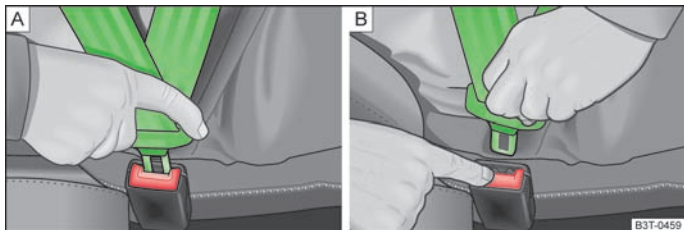

Fig. 118 Fastening/unfastening the seat belt
- Insert the lock tongue into the belt buckle » Fig. 118 - [A] that is part of the seat until it clicks into place.
- Press the red button in the belt buckle » Fig. 118 - [B], the lock tongue pops out.